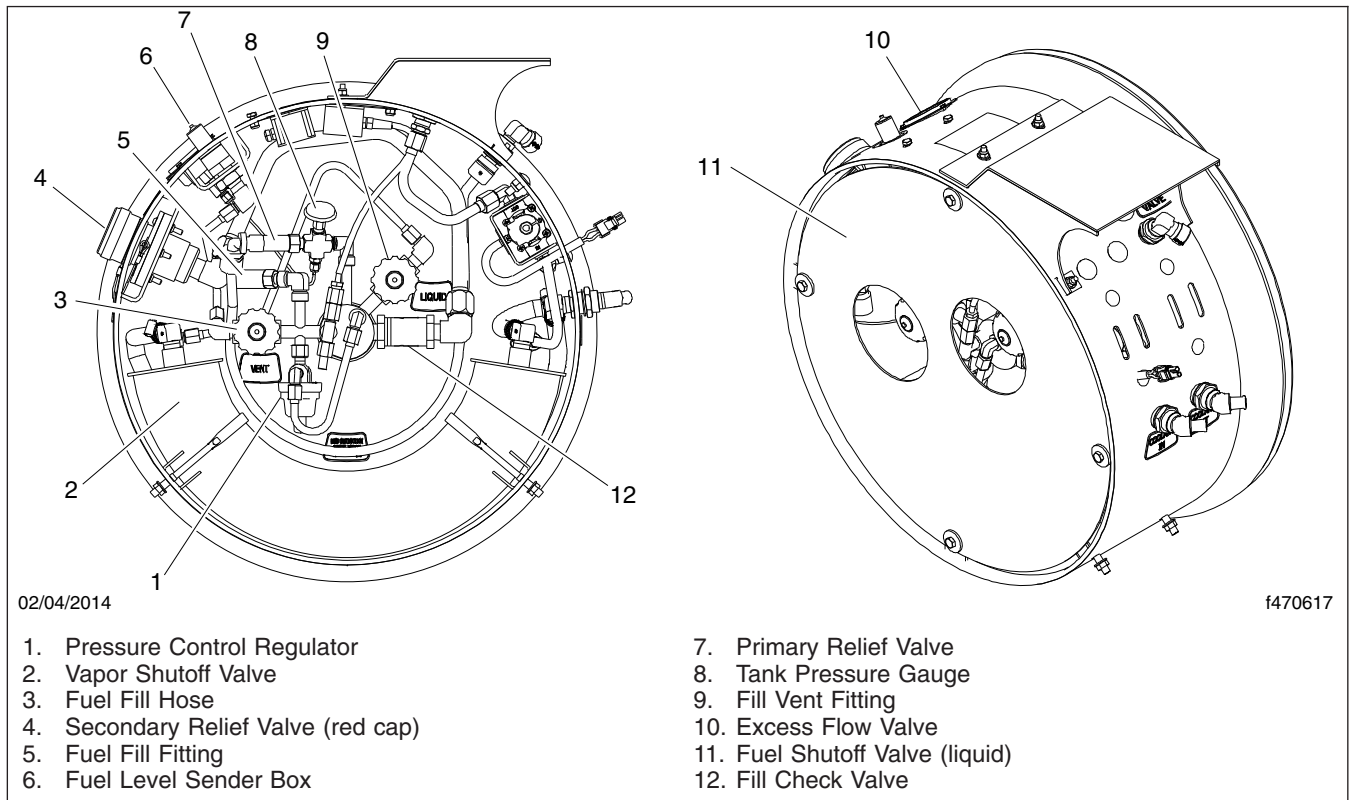

Fig. 9, LNG Tank Plumbing Components
See Fig. 9 for fuel tank and shroud component locations.
See Fig. 9 for plumbing component locations.
2. Inspect the fuel level sender box (Fig. 9) for signs of leaks or damage. Ensure that the retainer clips are installed on the mounting ears.
2. Check the fuel tank pressure gauge (Fig. 9, Item 8) to ensure that pressure is within the normal range of 120 to 150 psi (827 to 1034 kPa).